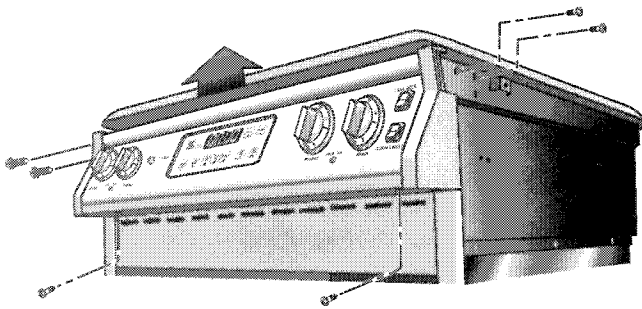

Fig. 10
2. Remove the two (2) screws securing the console panel to the unit side panels. There is one screw on each side of the unit. (Fig. 10)
3. Remove the two (2) screws securing the front of the cooktop to the unit side panels. There is one screw on each side of the unit. (Fig. 10)